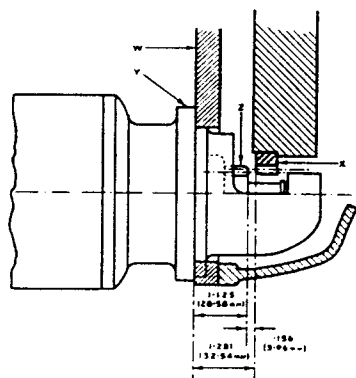

FIG. 8
Wear on the starter gear ring of the flywheel can be considerably reduced by ensuring correct engagement between its teeth and those of the starter motor pinion. The dimension between the front edge of the starter gear ring (X) on flywheel and the starter mounting bracket face (Y) should be 1.281" (32.54 mm.) as shown in Fig. 8.
**Note:** Engine Serial Nos. S67029E onwards—The position of the starter gear ring locating flange on the flywheel has been altered to reduce starter pinion clearance shown in Fig. 8, by  $\frac{1}{16}$ " (1.6 mm.)